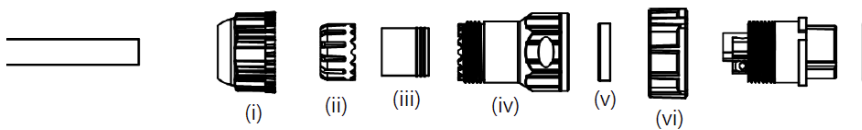

Figure 54: Insert Ethernet cord
1. Insert the Ethernet cord through each component – sealing nut (i), clip (ii), sealing (iii), sealing body (iv), gasket (v), and lock nut (vi) (Figure 54).